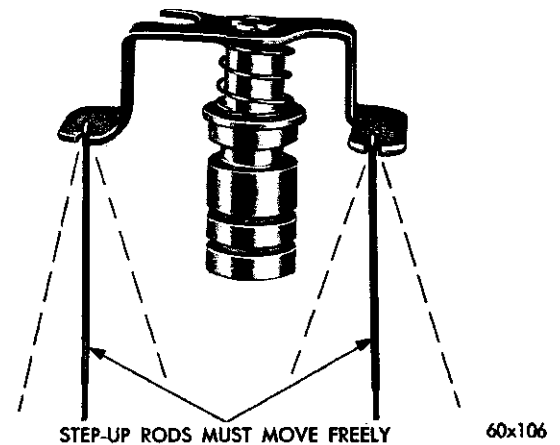

Fig. 29—Step Up Rod Free Play
(7) Before installing the step-up piston, be sure the step-up rods are able to move freely, each side of the vertical position, as shown in Figure 29. The step-up rods must be straight and smooth.